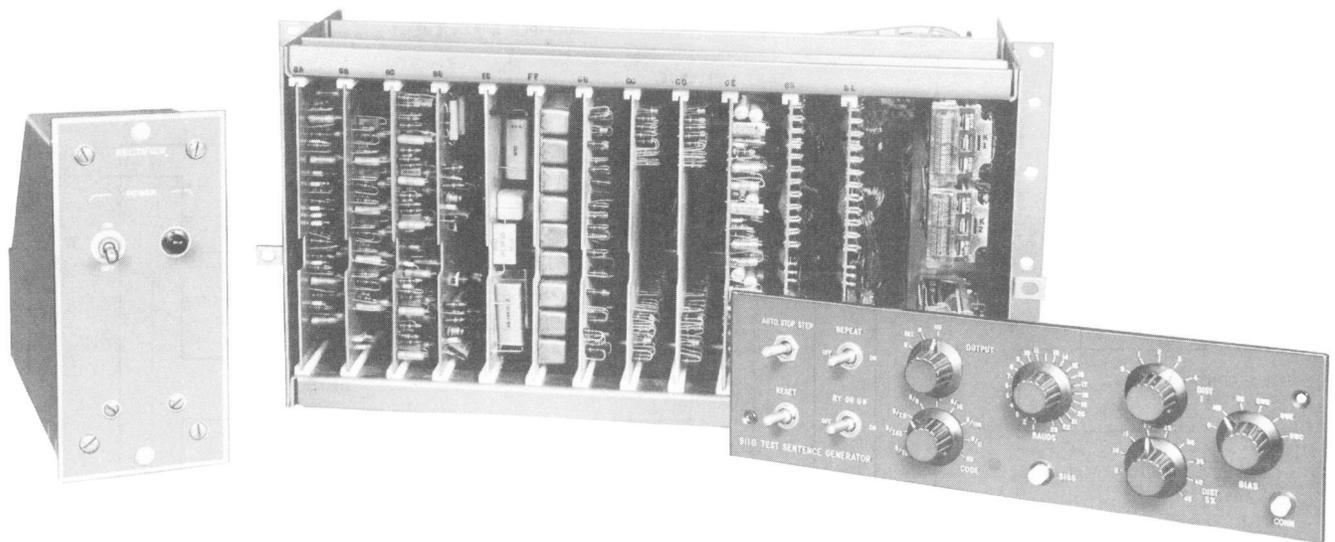

Fig. 2—911G Test Sentence Generator
2.01 The 911G Test Sentence Generator consists of an electronic unit, a control panel, and a power supply (Fig. 2). The control panel is normally located on the No. 2, No. 9B, or DOTC Serviceboard and is connected to the input/output appearances with a maximum cable length of 200 feet. The electronic unit may be located at any point, provided that the cable length to the control panel is not more than 300 feet, and provided that the power supply is mounted in the same bay as the electronic unit.